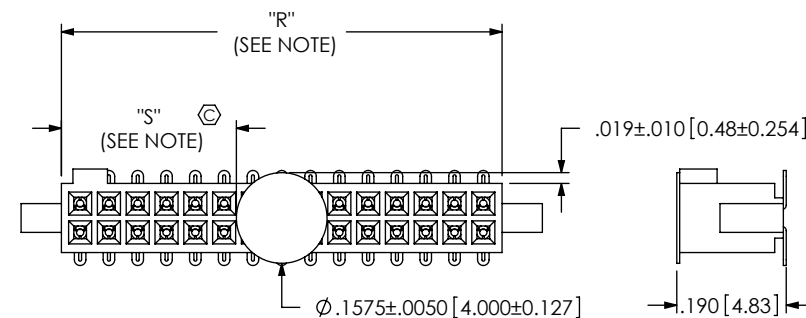

FIG 3
- K: POLYIMIDE FILM PAD (.005[0.13] THICKNESS) (SEE FIG 3, SHT 2) (USE K-DOT-.157-.250-.005)